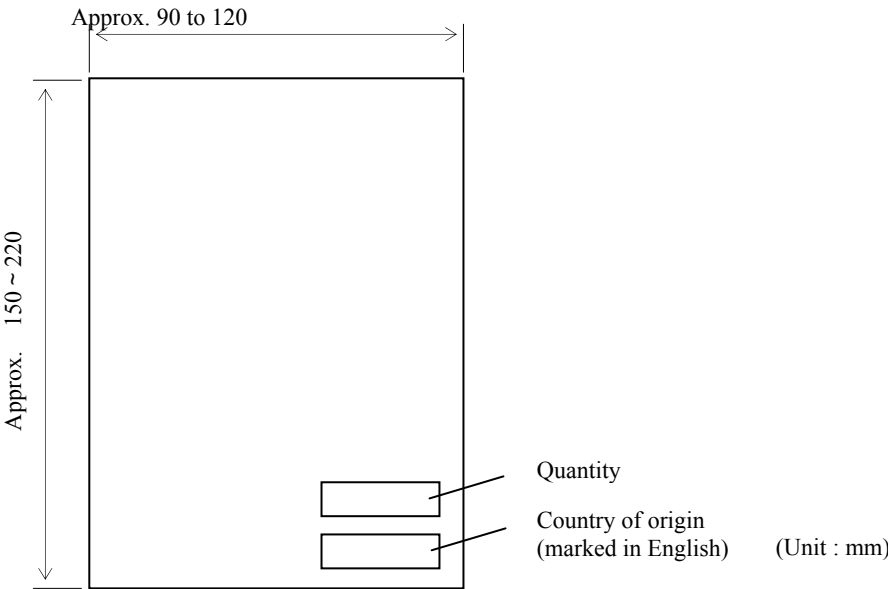
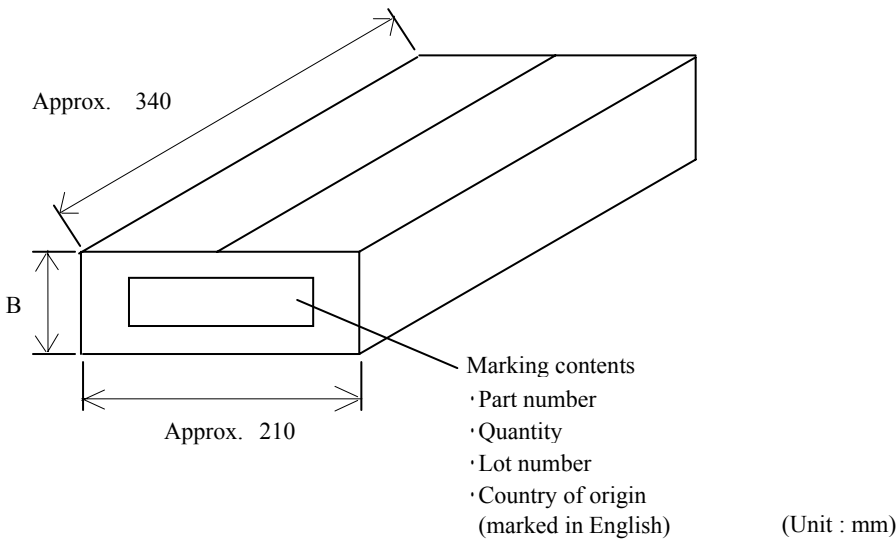

Fig 2.1 Bag
Fig 2.2 Carton box
7.3 Dimensions of packing materials and marking on the packing materials shall be shown Fig. 2.1 and Fig. 2.2